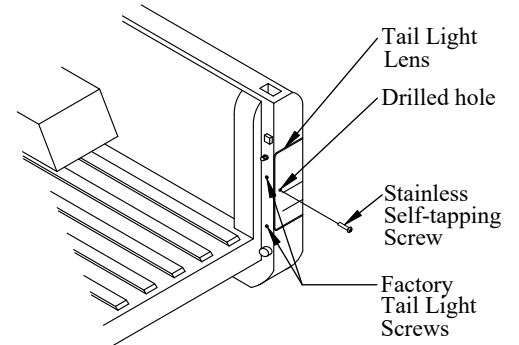

Figure 7: Tail light modification detail.
- Remove** the two (2) factory tail light screws from each tail light lens (Figure 7).
- Carefully **Drill** a 9/64" hole through each tail light lens and internal sheet metal (Figure 7).
- Carefully **Drill** a 3/16" hole through each tail light lens only, for screw clearance (Figure 7).